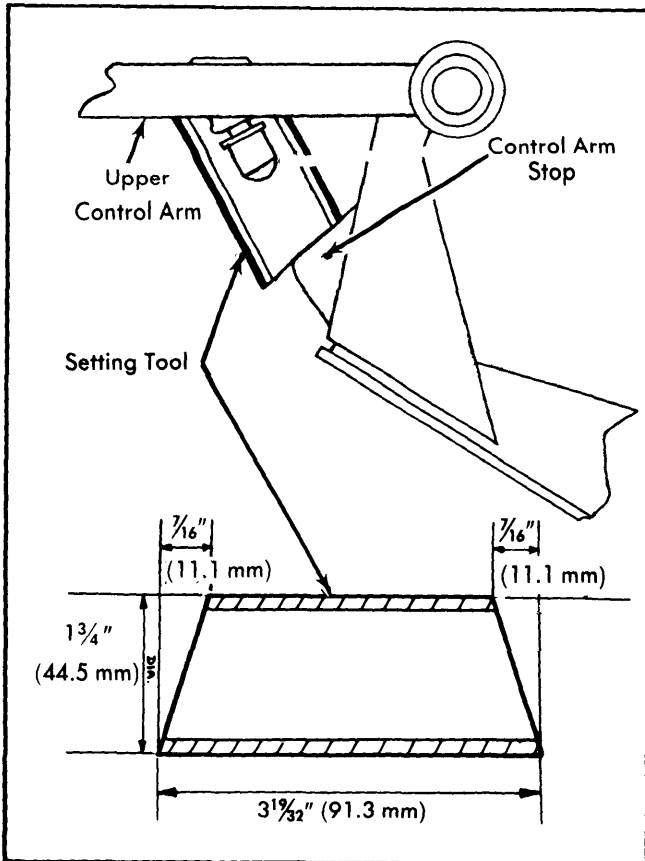

Fig. 1 Dimensions for Fabricating the Two Necessary Setting Tools
1) Ensure vehicle is on level ground and that tires are properly inflated. Before checking or adjusting caster or camber it will be necessary to fabricate two setting tools (See Fig. 1).